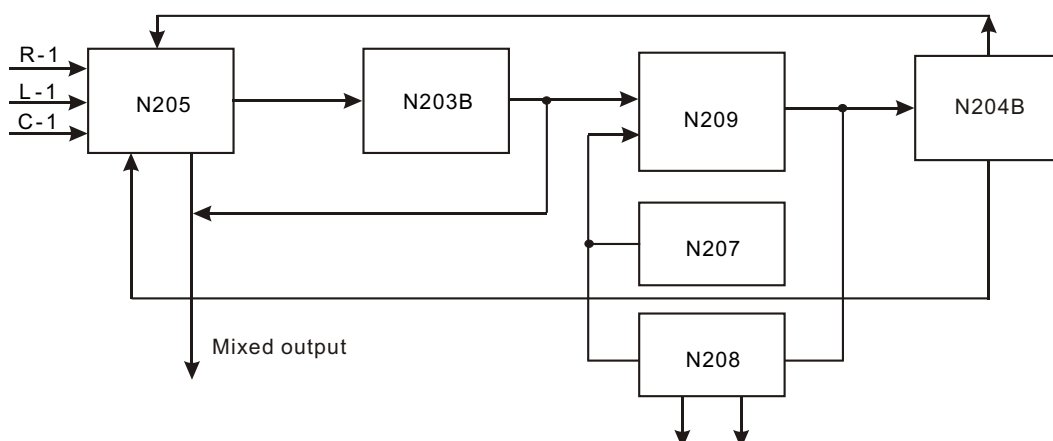

Figure 3.2.2.2 Scene mode signal flow chart
(4) Scene mode signal flow
AV225T (RU) has a special function, that is, it may realize switch in 5 kinds of scene mode when there is no Karaoke, which is fulfilled by Karaoke part. Signal flow chart is shown as in the figure 3.2.2.2: